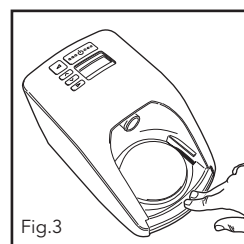
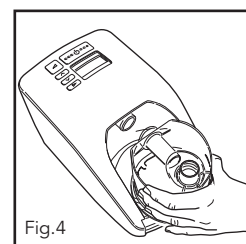

Fig.3
Fig.4
- d. To attach the water chamber to the device, press down the finger guard and slide the chamber on (Fig.3) (Fig. 4).